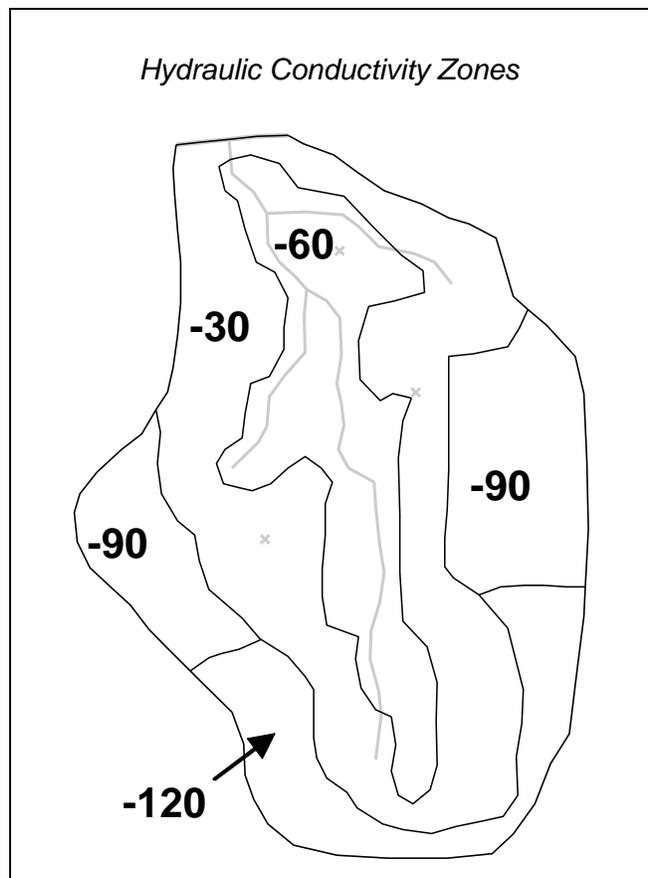

Figure 3 Hydraulic conductivity zones and parameter key values
Start with setting up the hydraulic conductivity zones. The hydraulic conductivity polygons are shown in Figure 3. The five polygons will be used to define five parameter zones. The key values associated with each of the five zones are shown on the polygons in Figure 3.
2. Using the **Select Polygons**  tool, double-click on the central polygon with the value of “-60” (see Figure 3) to open the *Attribute Table* dialog.
4. Repeat steps 2–3 for the remaining four polygons, entering the parameter key values as indicated in Figure 3.